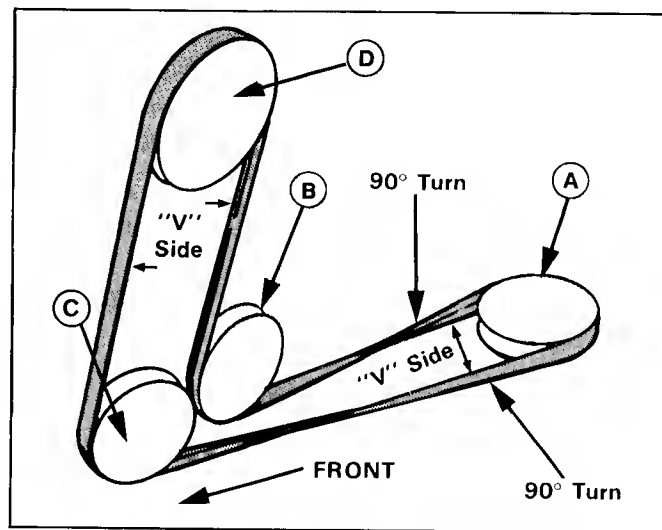

Figure 35. Belt Pattern (Seen From Left-Hand Side)
7. Place the new belt onto the engine pulley (A, figure 35), fixed pulley (B) and idler pulley (C). Note that "V" side of belt rides in the pulleys, and flat side rides against fixed pulley (B). The belt turns 90° between engine pulley and the fixed pulley (B) and between engine pulley and idler pulley (C).
8. Pull belt up from top and place onto the transmission pulley (D, figure 35).